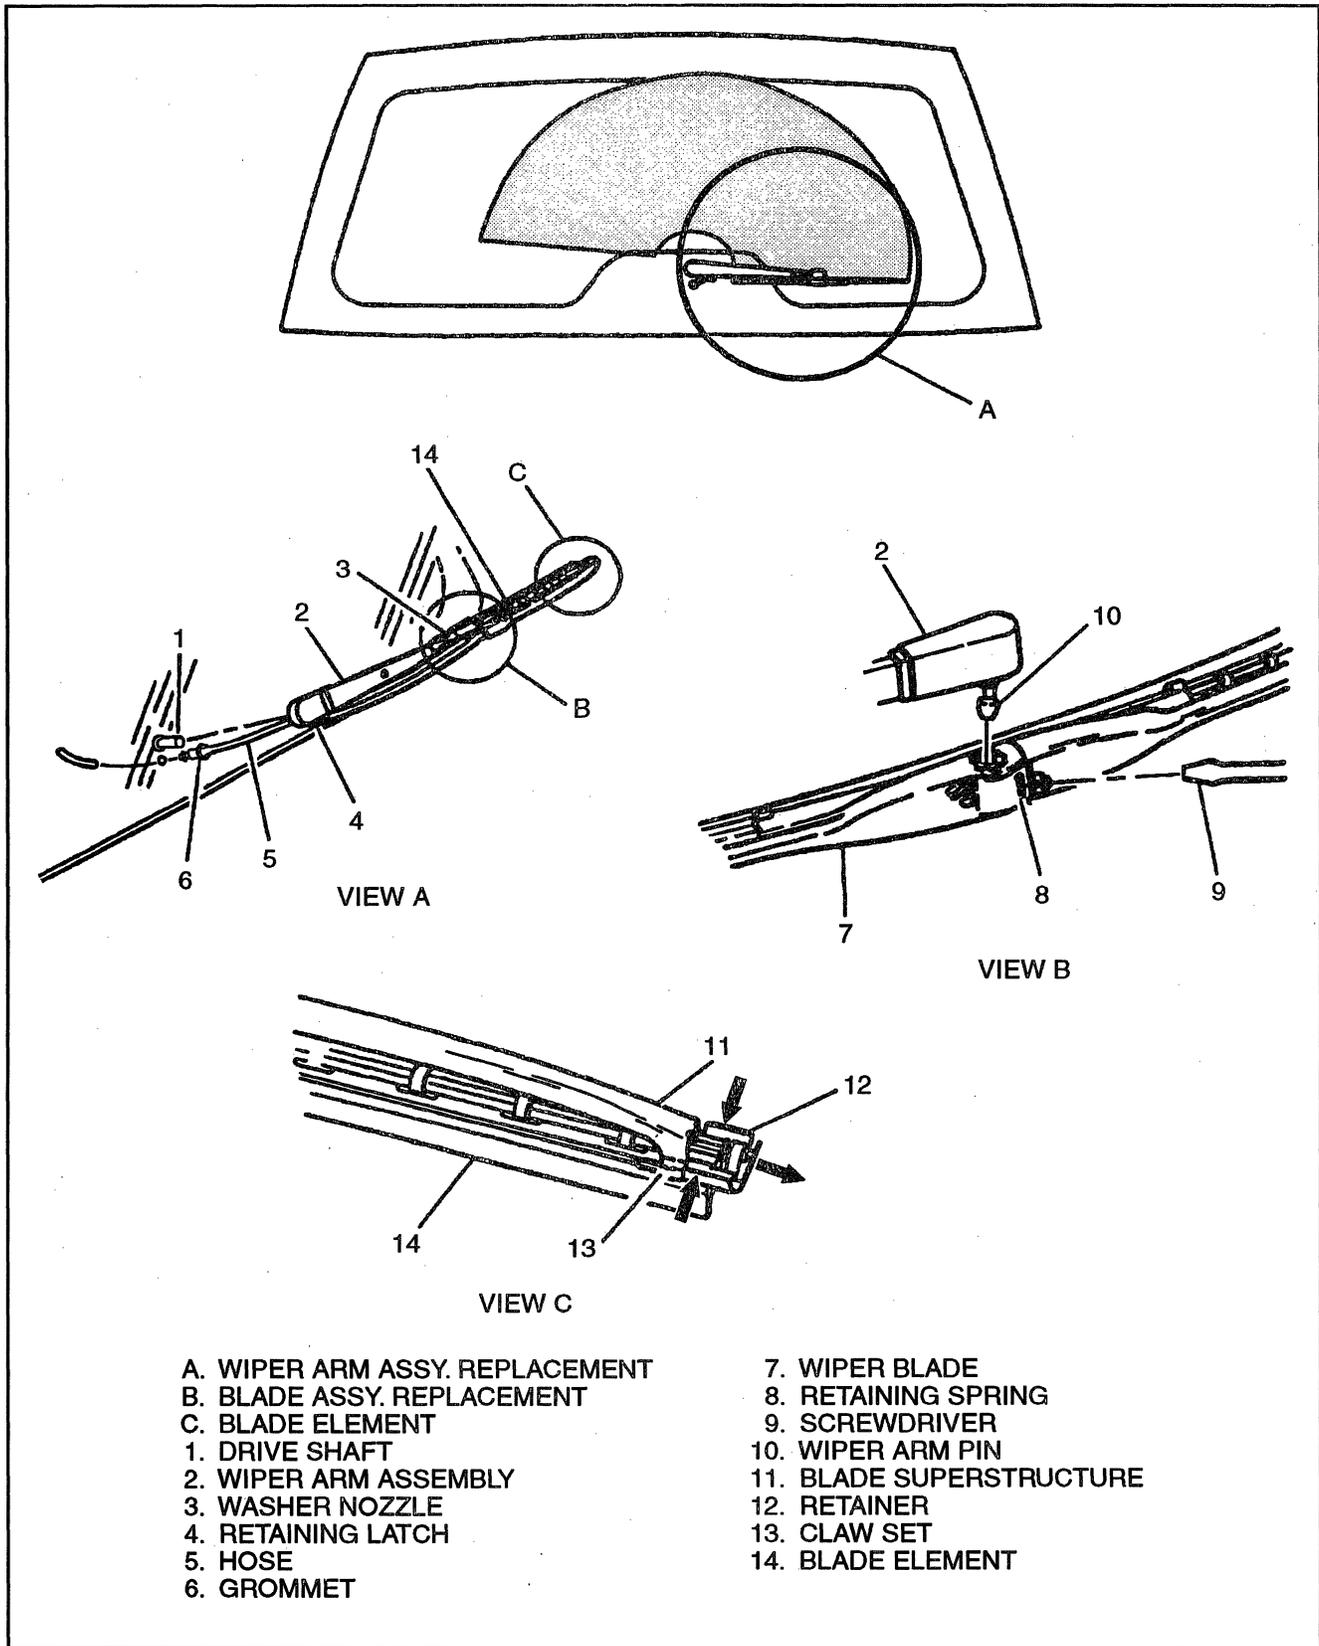

Figure 7-Wiper Arm Assembly, Blade, and Element Replacement
#### Remove or Disconnect (Figure 7)
#### Install or Connect (Figure 7)
2. Check the wipe pattern and compare it to Figure 7.